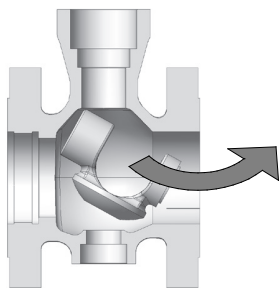

Figure 4a: Plug removal
- 13.6 Remove the plug from the body. See Figure 4a.